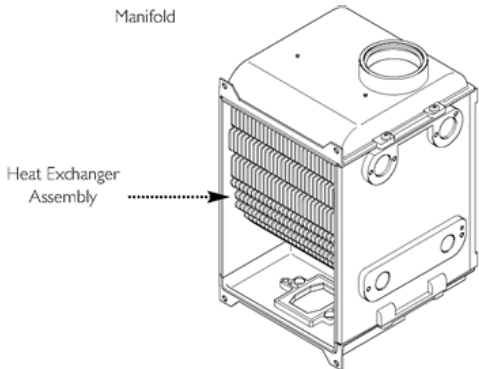

Fig. 59
6. Lift the heat exchanger assembly (Fig. 59) and rotate the bottom upwards whilst pulling it forwards out of the airbox.